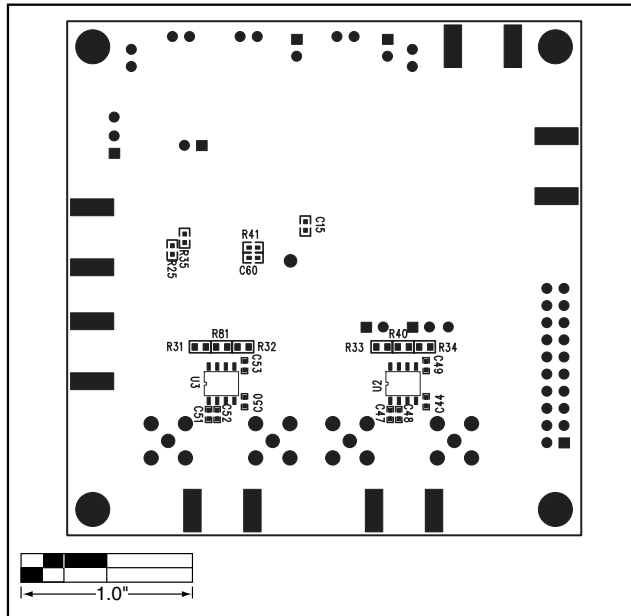

Figure 11. MAX2306/MAX2308/MAX2309 EV Kit Component Placement Guide—Solder Side
- 2) Connect the INTF2300 interface cable as shown in Figure 11. (Pin 1 of the interface cable corresponds to the red wire; pin 1 is designated in silkscreen on each of the PC boards.)
The INTF2300 interface board is used to control the 3-wire interface of a device under test from the parallel port of a PC. This board level translates 5V logic from the PC to VCC of the device under test. The INTF2300 also provides buffering and EMI filtering. The recommended operating supply voltage range is +2.7V to +3.6V. For operation of the MAX2306/MAX2309 above +3.6V, jumper JU1 may be removed and an external supply voltage of +3.6V may be applied between VCC (pin 2) and GND (pin 1) (Figure 11).